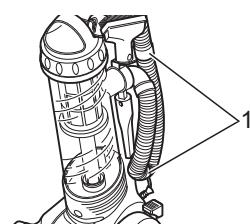

Fig.8
4. Pull the flexible suction hose out of the suction hose mount (Fig. 8/1).
4. Secure the flexible suction hose to the suction hose mounts (Fig. 8/1).